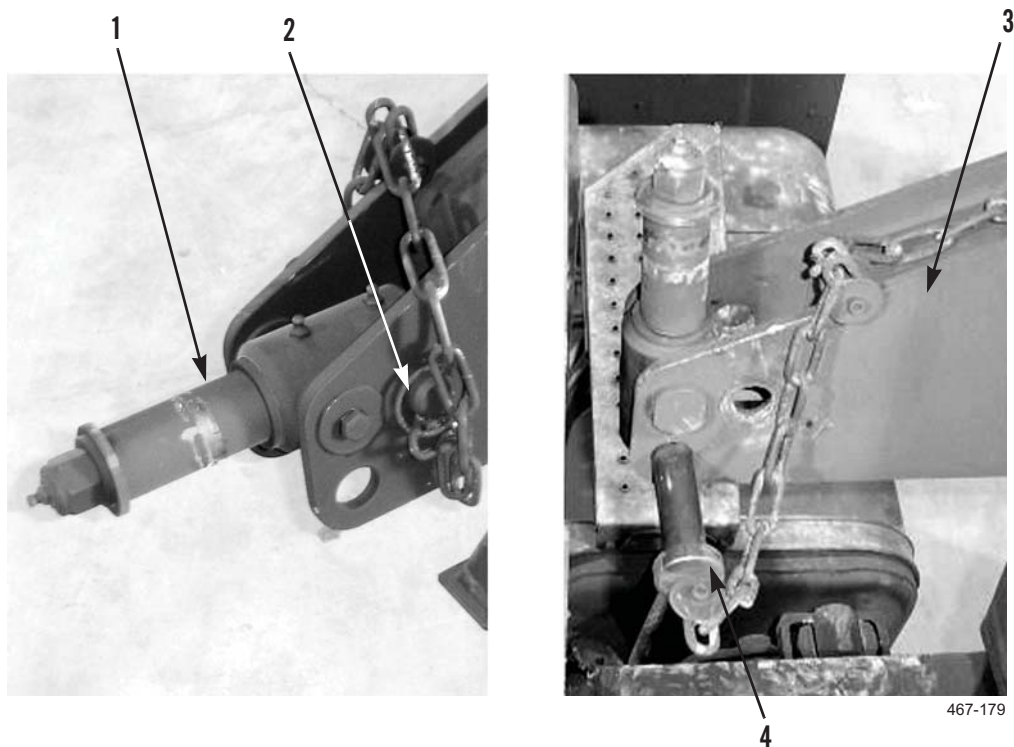

Figure 5. Reposition Stowage Roller Locking Pins.
6. Remove clip pin (Figure 5, Item 2) from locking pin (Figure 5, Item 4).
7. Remove locking pin (Figure 5, Item 4) from stowage roller (Figure 5, Item 1) and rotate stowage roller to vertical position.
8. Install locking pin (Figure 5, Item 4) in lower position on locking plate (Figure 5, Item 3).
9. Install clip pin (Figure 5, Item 2) in locking pin (Figure 5, Item 4).